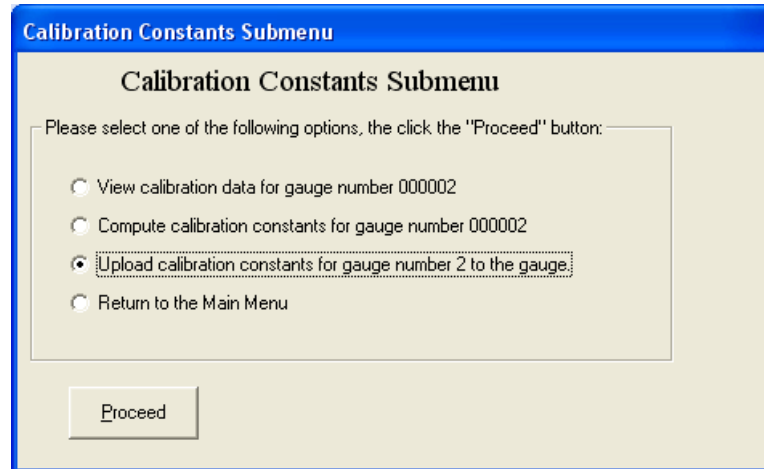

Figure 3–16. Calibration Constants Submenu, Upload Calibration Constants Option Selected
8. The **Calibration Constants Submenu** is again displayed, with all four options available as shown in Figure 3–16. Select the fourth option, **Return to the Main Menu**, and click the **<Proceed>** button.